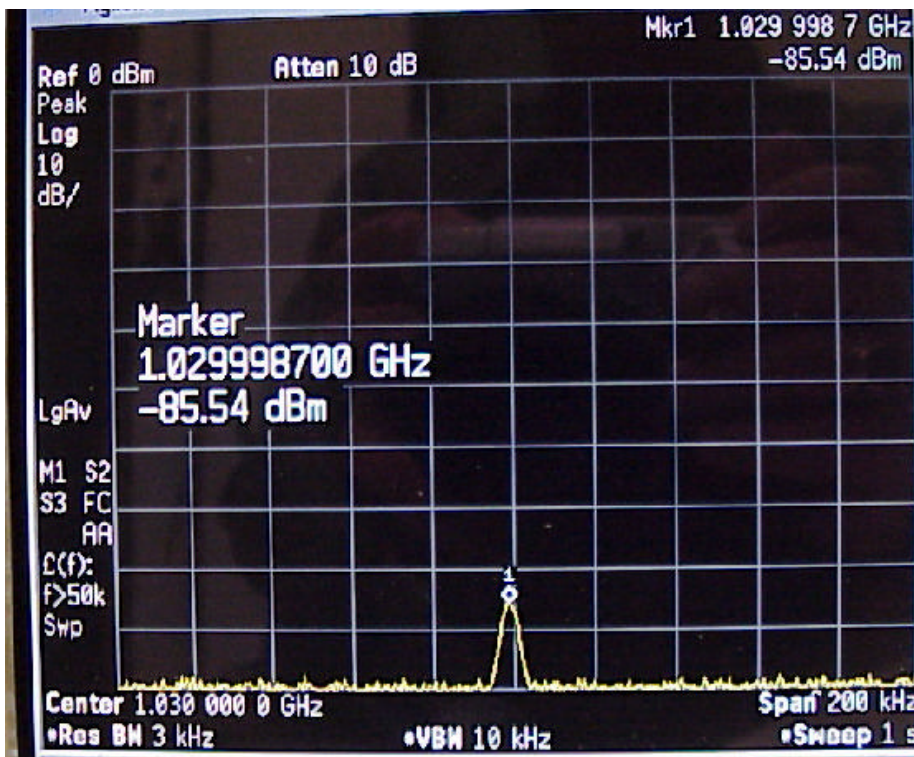

**Figure 49: Spurious Emissions at Antenna Local Oscillator Leakage (1030 MHz) Test Setup**
- 1 Connect the equipment as shown in Figure 49 above.